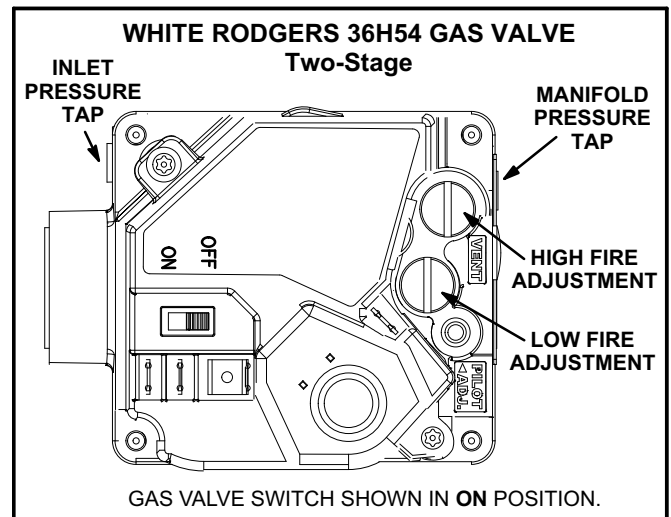

FIGURE 29
Gas Valve Operation for Honeywell VR8205Q / VR8305Q and White Rodgers 36H54 (figure 29)
- 5- Turn gas valve switch to **OFF**. See figure 29.
- 6- Wait five (5) minutes to clear out any gas. If you then smell gas, **STOP!** Immediately call your gas supplier from a neighbor's phone. Follow the gas supplier's instructions. If you do not smell gas, go to the next step.
- 7- Turn gas valve switch to **ON**. See figure 29.